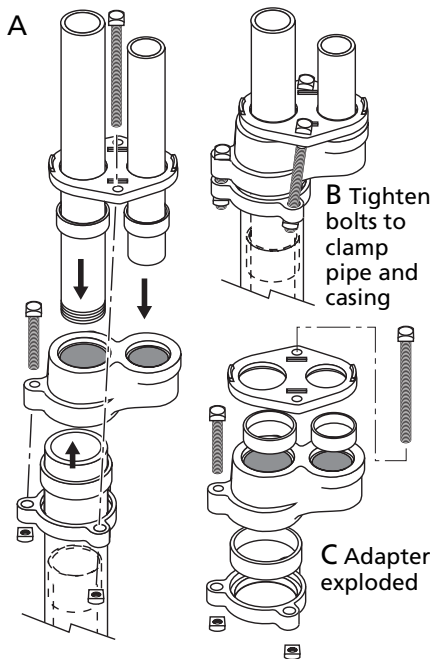

Figure 1 - Pkg 4HFC2 Casing Adapter Assembly
6. See Figures 1 and 2 for casing adapter assembly and installation.